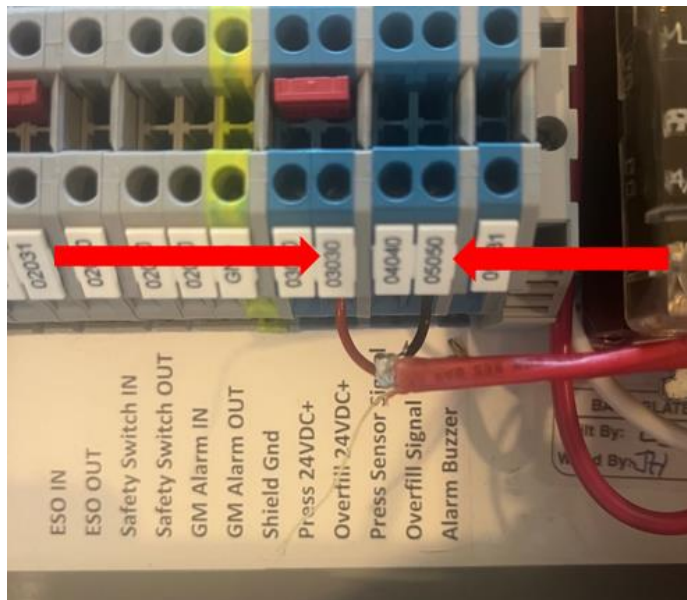

Figure 3-5: GREEN MACHINE Control Panel Connections
3. Install two wires rated for 24 VDC or higher from the R5 terminals to the 03030 and 05050 in the GREEN MACHINE Control Panel. **REMEMBER – DO NOT try to share an existing overfill relay if it's present, high voltage will damage the panel.** Most standard overfill alarms use 115 VAC. High voltage or Belden style wire is acceptable. See Figure 3-5 & 3-6.